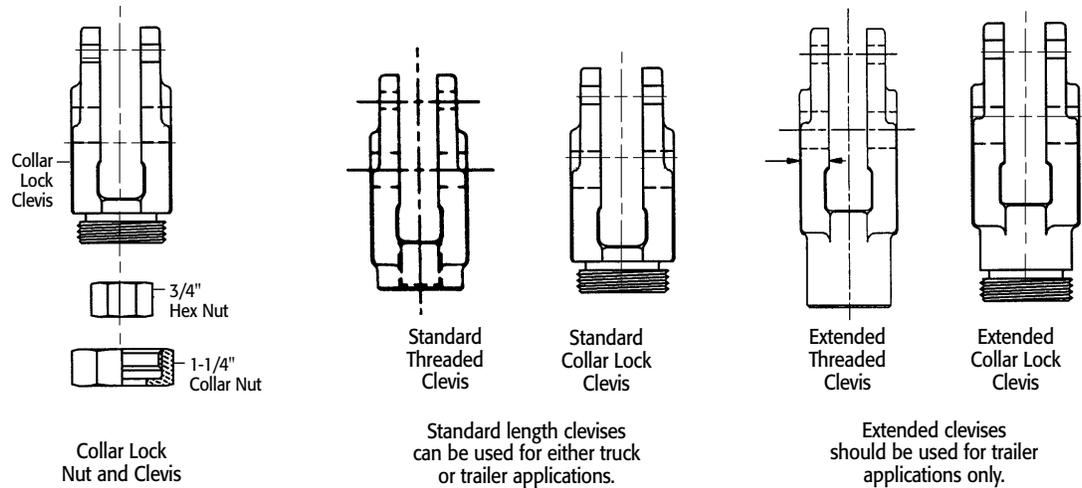

Figure 2 – Clevis Types
4. Refer to figure 2 and determine if your Gunite automatic slack adjusters are equipped with the threaded clevis or the collar lock clevis (extended or standard length). Refer to the correct installation procedure for the style of clevis used on your Gunite slack adjusters.